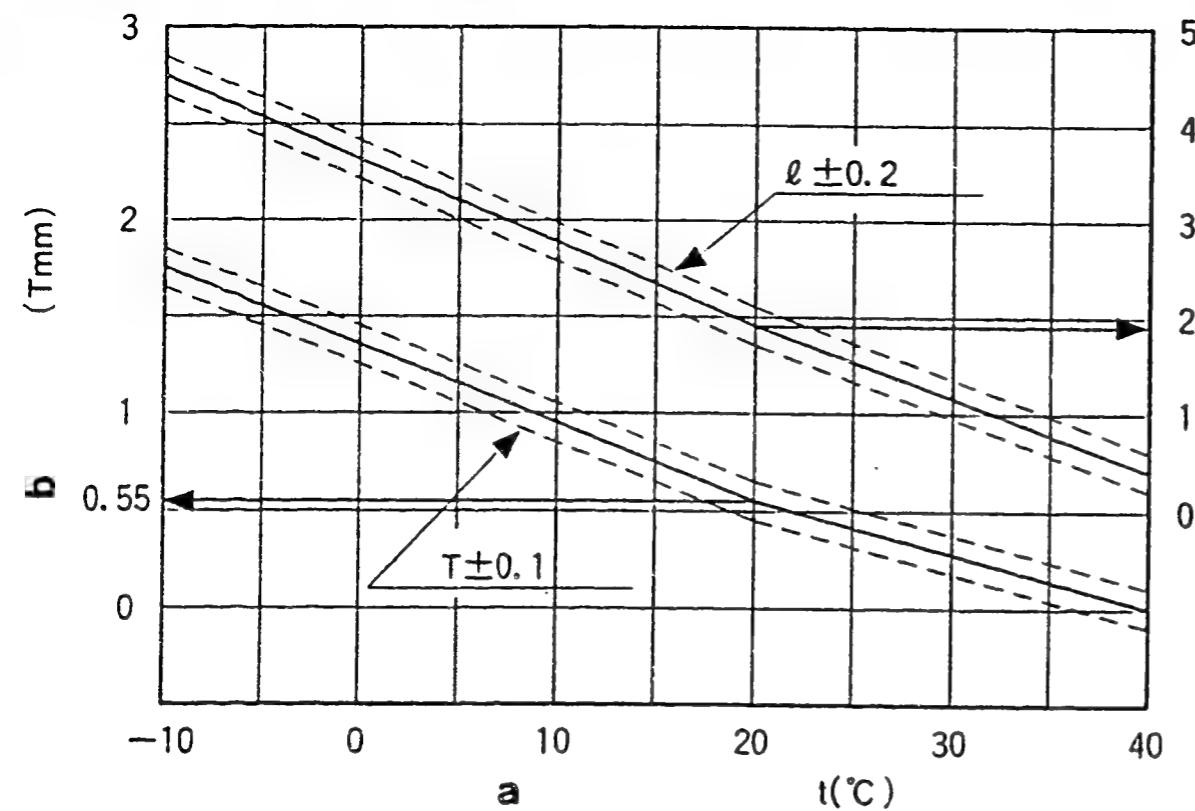

Figure 95
- 1) Calculate the timer stroke from Fig. 95 according to the atmospheric temperature at the time of adjustment.
- 1) Calculate the block gauge dimension  $l \pm 0.05$  mm from Fig. 95 according to the atmospheric temperature at the time of adjustment.